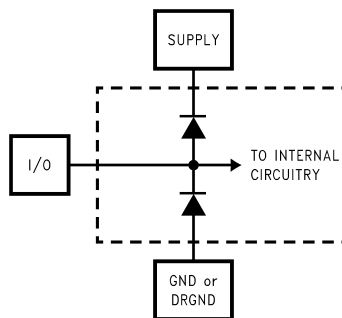

Figure 2.
- (1) The inputs are protected as shown below. Input voltage magnitudes above V_A or below GND will not damage this device, provided current is limited see Note 4 in the Absolute Maximum Ratings table. However, errors in the A/D conversion can occur if the input goes above V_A or below GND by more than 100 mV. As an example, if V_A is +3.3V, the full-scale input voltage must be $\leq +3.4V$ to ensure accurate conversions (see Figure 2).
- (2) To guarantee accuracy, it is required that $|V_A - V_D| \leq 100$ mV and separate bypass capacitors are used at each power supply pin.
- (3) With the test condition for $V_{REF} = +1.0V$ (2V_{P-P} differential input), the 12-bit LSB is 488 μV .
- (4) Typical figures are at $T_J = 25^\circ C$, and represent most likely parametric norms. Test limits are guaranteed to AOQL (Average Outgoing Quality Level).
- (5) I_{DR} is the current consumed by the switching of the output drivers and is primarily determined by load capacitance on the output pins, the supply voltage, V_{DR} , and the rate at which the outputs are switching (which is signal dependent). $I_{DR} = V_{DR}(C_0 \times f_0 + C_1 \times f_1 + \dots C_{11} \times f_{11})$ where V_{DR} is the output driver power supply voltage, C_n is total capacitance on the output pin, and f_n is the average frequency at which that pin is toggling.
- (6) Excludes I_{DR} . See⁽⁵⁾
- (1) The inputs are protected as shown below. Input voltage magnitudes above V_A or below GND will not damage this device, provided current is limited see Note 4 in the Absolute Maximum Ratings table. However, errors in the A/D conversion can occur if the input goes above V_A or below GND by more than 100 mV. As an example, if $V_A = +3.3V$, the full-scale input voltage must be $\leq +3.4V$ to ensure accurate conversions (see Figure 2).
- (4) Timing specifications are tested at TTL logic levels, $V_{IL} = 0.4V$ for a falling edge and $V_{IH} = 2.4V$ for a rising edge.
- (5) Typical figures are at $T_J = 25^\circ C$, and represent most likely parametric norms. Test limits are guaranteed to AOQL (Average Outgoing Quality Level).